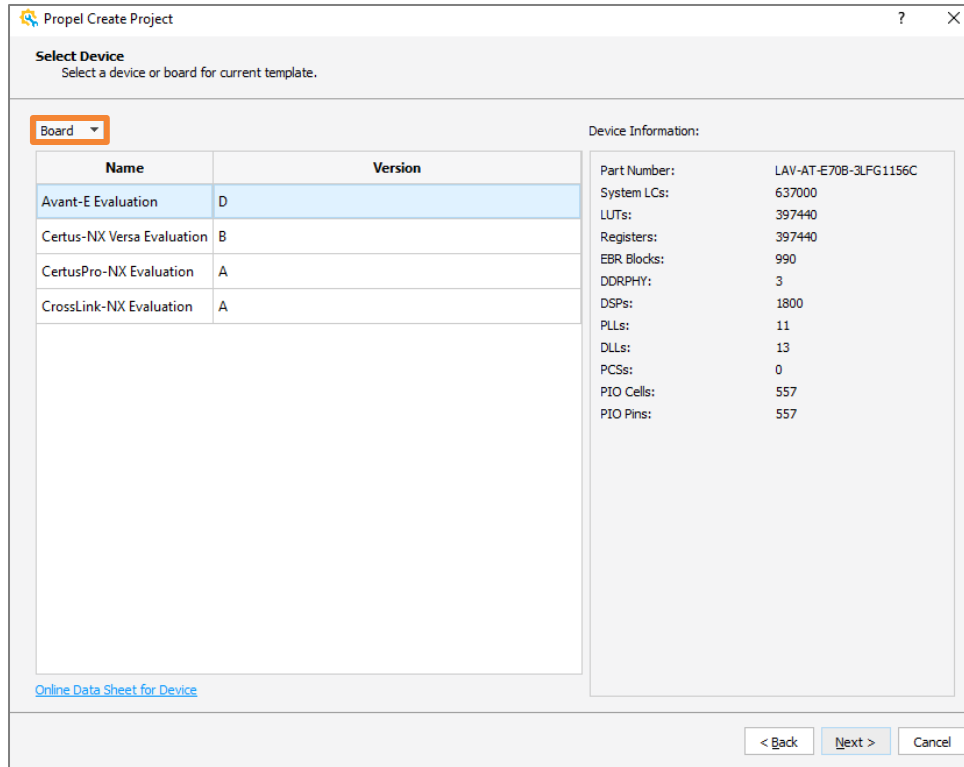
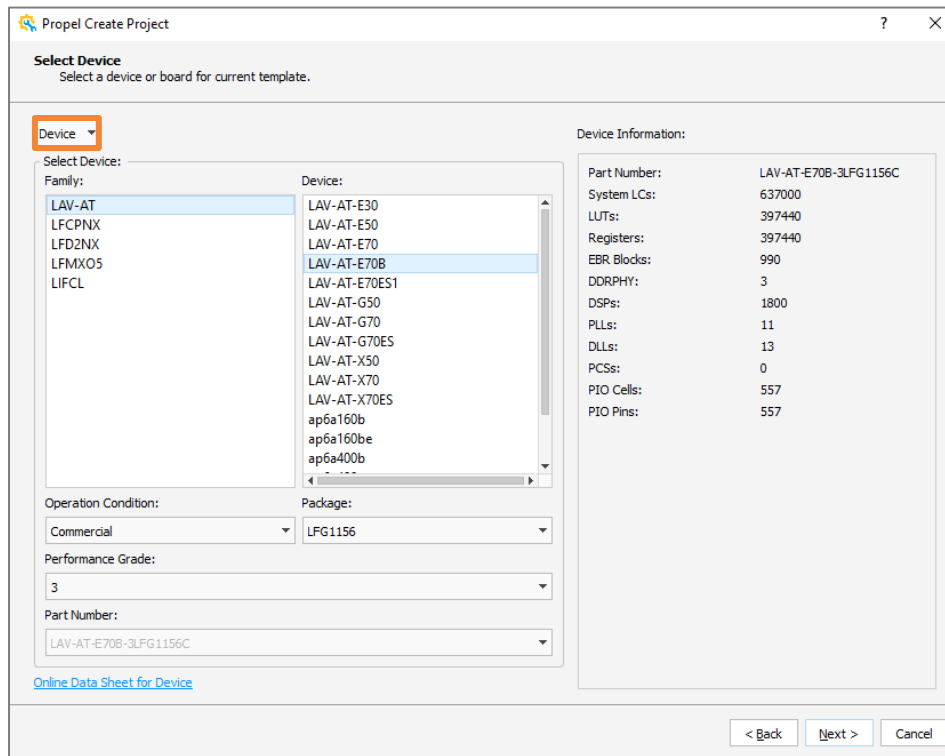

Figure 2.21. Scalable Wizard – Choose Board
Figure 2.22. Scalable Wizard – Choose Device
- From the **Select Device** Page, choose **Board** (Figure 2.21) or **Device** (Figure 2.22) that is supported for this template, click **Next**.